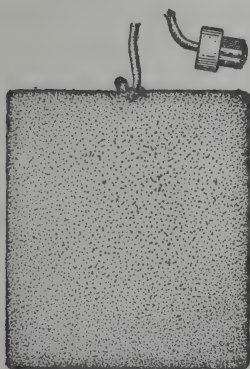

Fig. 81
13. *Electric Heating Pad* (Fig. 81). — This consists of resistance wire inside of a pad of soft material. It maintains a temperature of 180 degrees, and is an excellent substitute for a hot water bag. It contains about two hundred and twenty ohms of resistance and requires the same current as a 16-candle-power lamp.